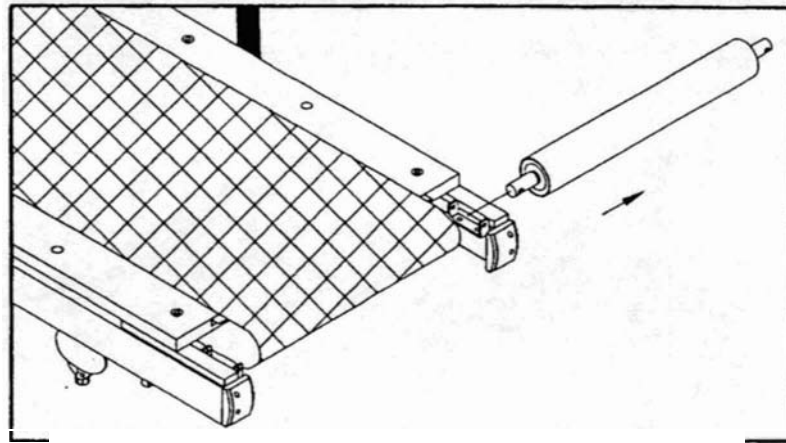

Fig.4
3. Take out the damaged rear roller.(see Fig.4)